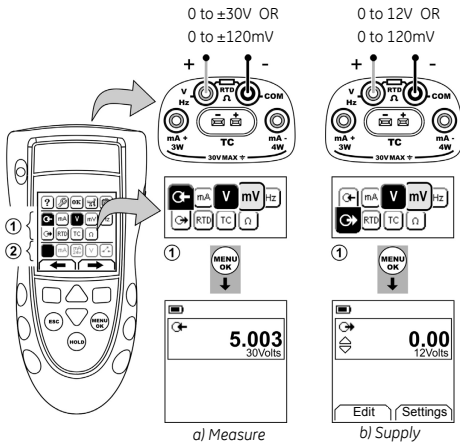

Figure 4: Example configuration - To measure/supply Volts or mV (Area 1)
1. Connect the instrument (Figure 4/5) and, if necessary, adjust the Set Up (Table 1).